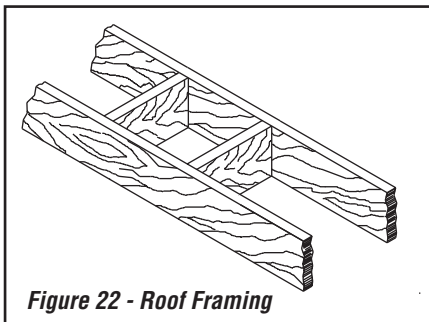

Figure 22 - Roof Framing
1. Cut and frame the holes in the ceiling, floor and roof where the chimney will pass (see **Figure 22**). Use a plumb bob to line up the center of the holes. The sizes are indicated in **Table 2** for the floor and ceiling holes and **Table 3** (**Page 15**) for the roof holes.